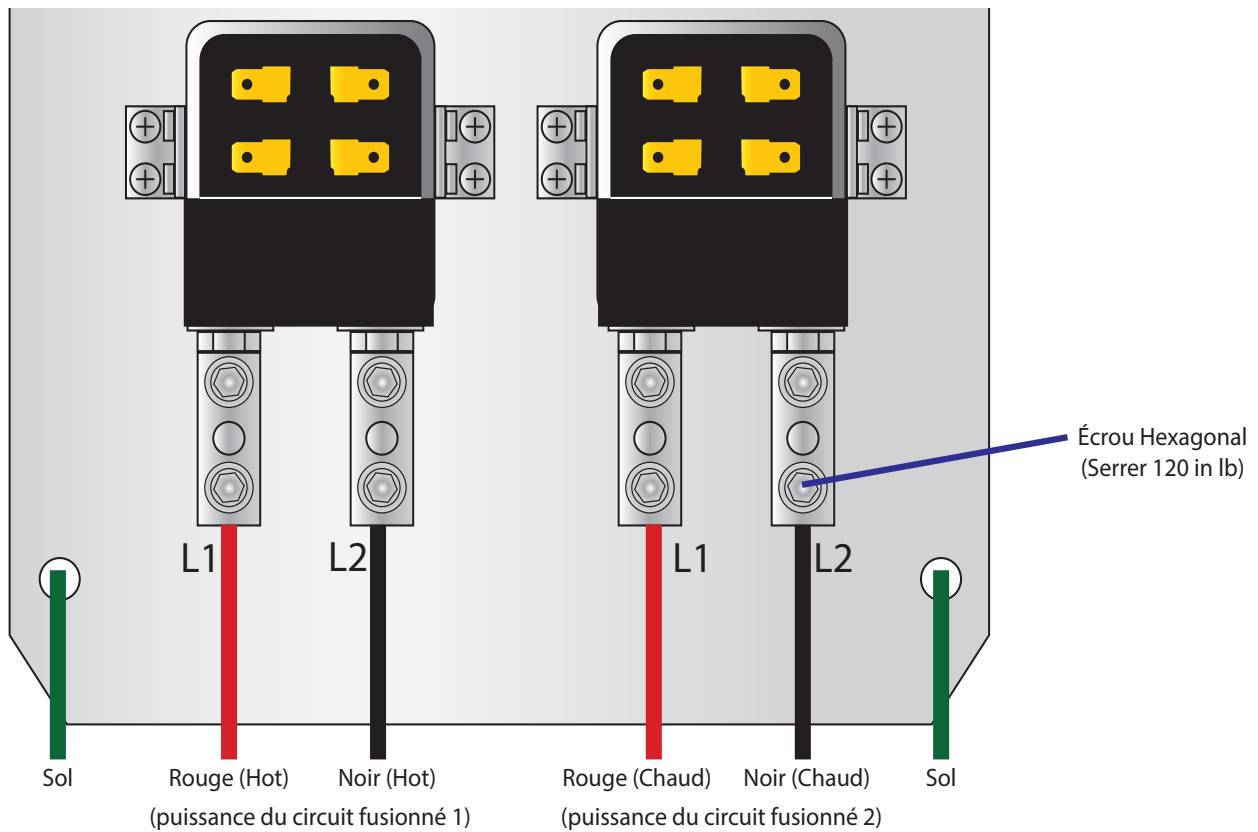
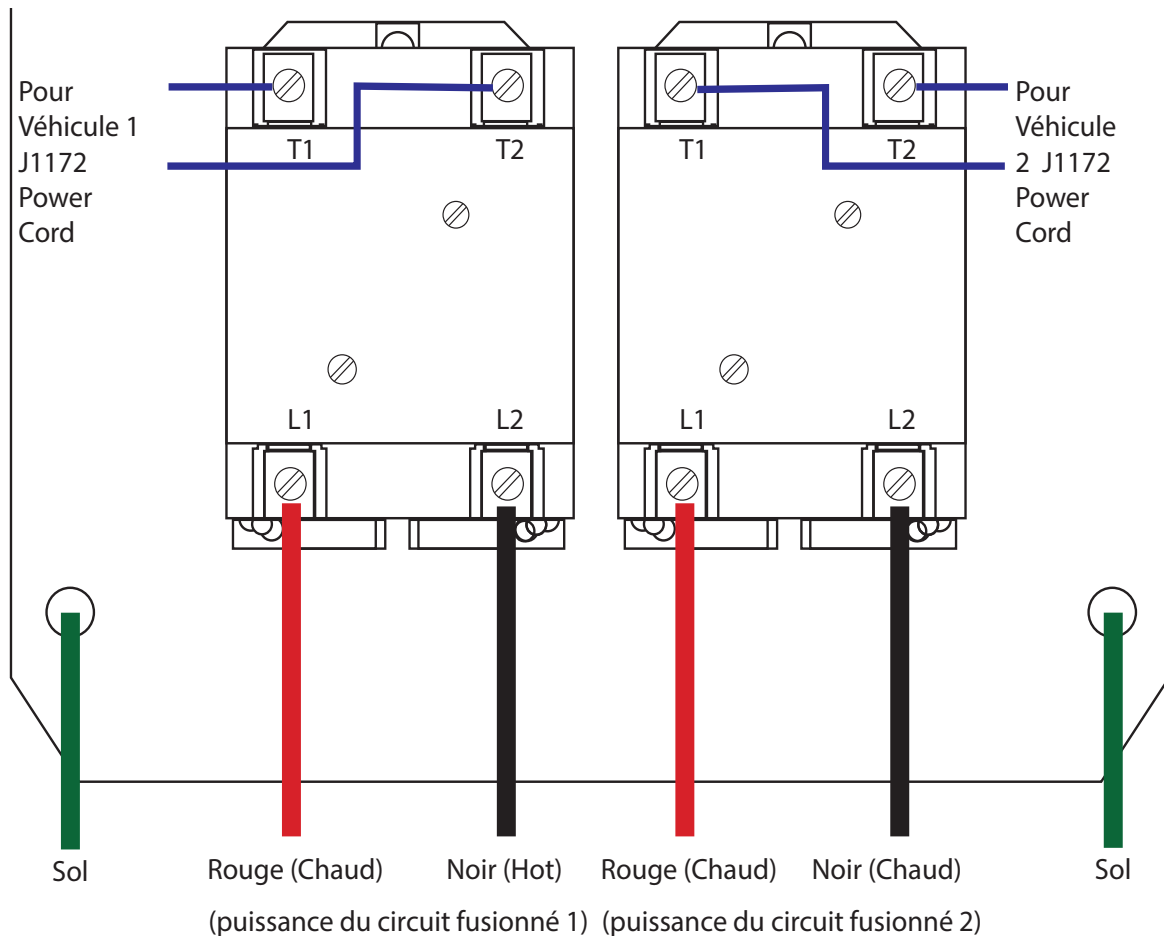

Figure 10. Wiring QuadZilla Equipped with Curtis Albright Contactors
Figure 11. Wiring QuadZilla Equipped with GE Contactors (Alternate)
3. (In this step, if your unit is equipped with Curtis Albright electrical contactors, refer to Figure 10. If your unit is equipped with GE electrical contactors, refer to Figure 11.) In each enclosure, connect the two hot leads from a 100 Amp breakered circuit to L1 and L2 on the left contactor. Then do the same with a second 100 Amp breakered circuit to L1 and L2 on the right contactor. To attach the power wire
to L1 and L2, insert the wire from beneath the contactor as shown in Figure 10 and Figure 11. Then use a hex wrench to torque each nut to secure each wire into place.
4. Connect the ground wires to the grounding studs located behind the electrical contactors (see Figure 11). The bolts connecting the QuadZilla enclosure to studs are the grounding studs.